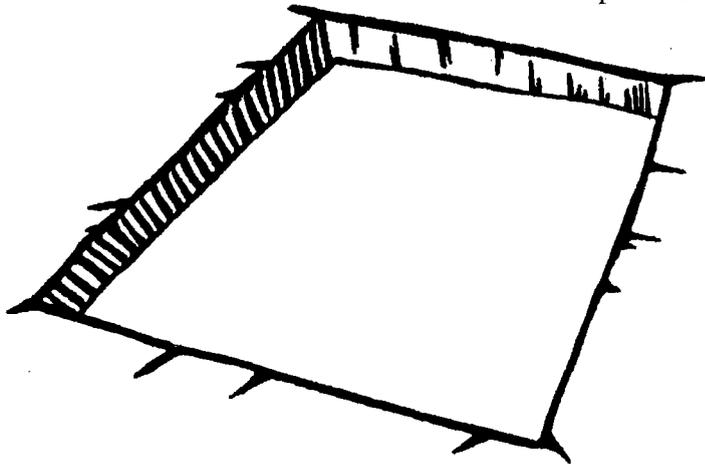

Figure 5. Preparing a pit for cover slab casting.
- Dig a square, shallow pit, about 200 millimetres wider and longer than the pit and 50 millimetres deep. Be sure that the bottom of the pit is level and smooth (see Figure 5).